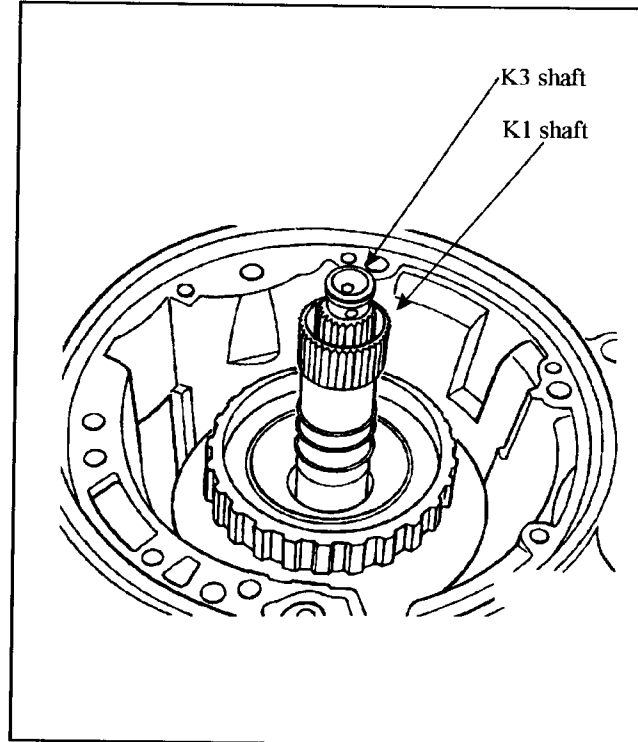

Figure 59
10. Lift and remove the K1 clutch drum (hollow splined shaft figure 59 and 60) from the transmission case. **Note:** there are two plastic thrust washers that sit on the side of the K1 drum where the turbine shaft is located, make sure that these do not get lost.